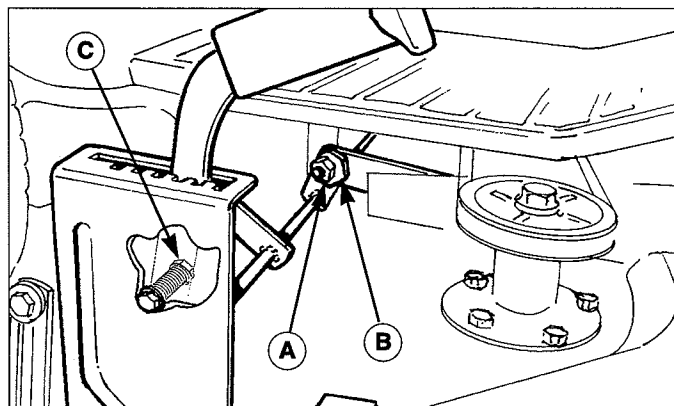

Figure 29. Front-to-Back Adjustment Nut
3. See Figure 29. Loosen the outside nut (A) and turn the eccentric nut (B) to raise or lower the rear of the deck. When the mower deck is level, hold the eccentric nut while tightening the outside nut.
NOTE: If mower handle drops out of cutting height quadrant, turn adjustment nut (C, Figure 29) clockwise to increase spring tension. DO NOT tighten nut all the way so that spring is solid.